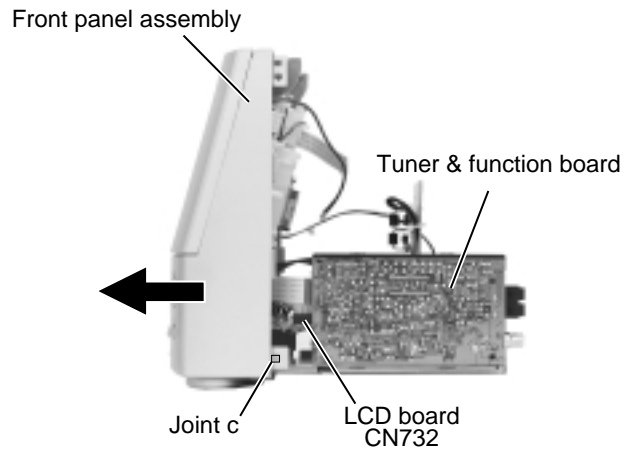

Fig.10
■ Removing the front panel assembly (See Fig.10 to 12)